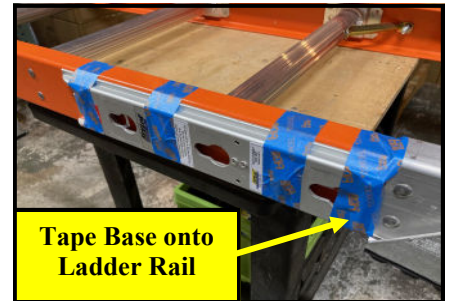

Figure 16
10.) Mount Base Units: Lay ladder onto its face with rungs parallel to floor. **(See Figure 16)** Slide entire base unit assembly with mounting bolts, aluminum cylinders and rubber gasket, (if necessary) back into corresponding mounting holes, with bolt heads taped to keep them in place. Then, tape or clamp entire base unit assembly to the ladder rail. Mount corresponding washers and nuts on the inside face of the rail by hand. Using included hex wrenches, tighten all nuts with a wrench or socket for a snug fit. Do not over tighten.